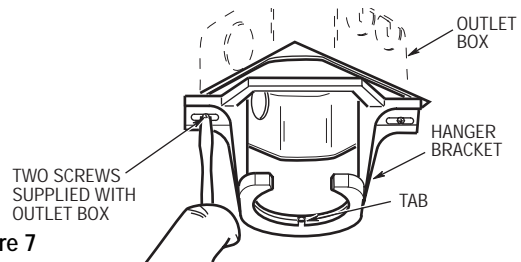
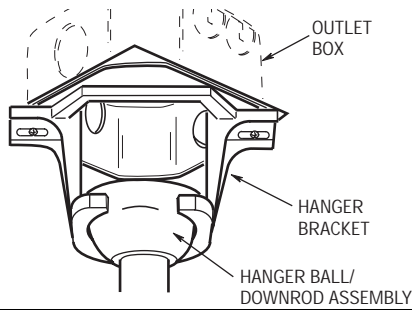

Figure 7
Figure 8
- 1. Securely attach the hanger bracket to the outlet box using the two screws supplied with the outlet box. (Figure 7.)
- 2. Carefully lift the fan and seat the hanger ball/downrod assembly on the hanger bracket that was just attached to the outlet box (Figure 8). Be sure the groove in the ball is lined up with tab on the hanger bracket (Figure 7).